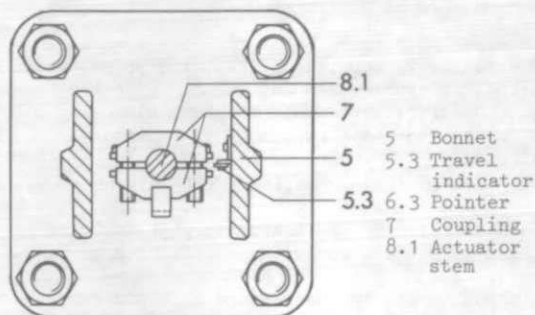

Fig. 3 (top view)
Remove clamps of coupling (7) and nut (8.2) from the actuator (8). Place actuator (8) on bonnet (5), attach and tighten nut (8.2). Attach the two clamps of the coupling (7) to the actuator stem (8.1) and nut (6.1) as shown in Fig. 3 and screw together using the two hex head bolts and nuts that are part of the coupling.